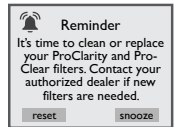

Figure 15.0e
21. ProClarity/ProClear Filter Reminder: This message will appear when the filter reminder time has expired (Figure 15.0e). Remove the ProClarity/Proclear filters and filter/debris bag for cleaning or replacement.